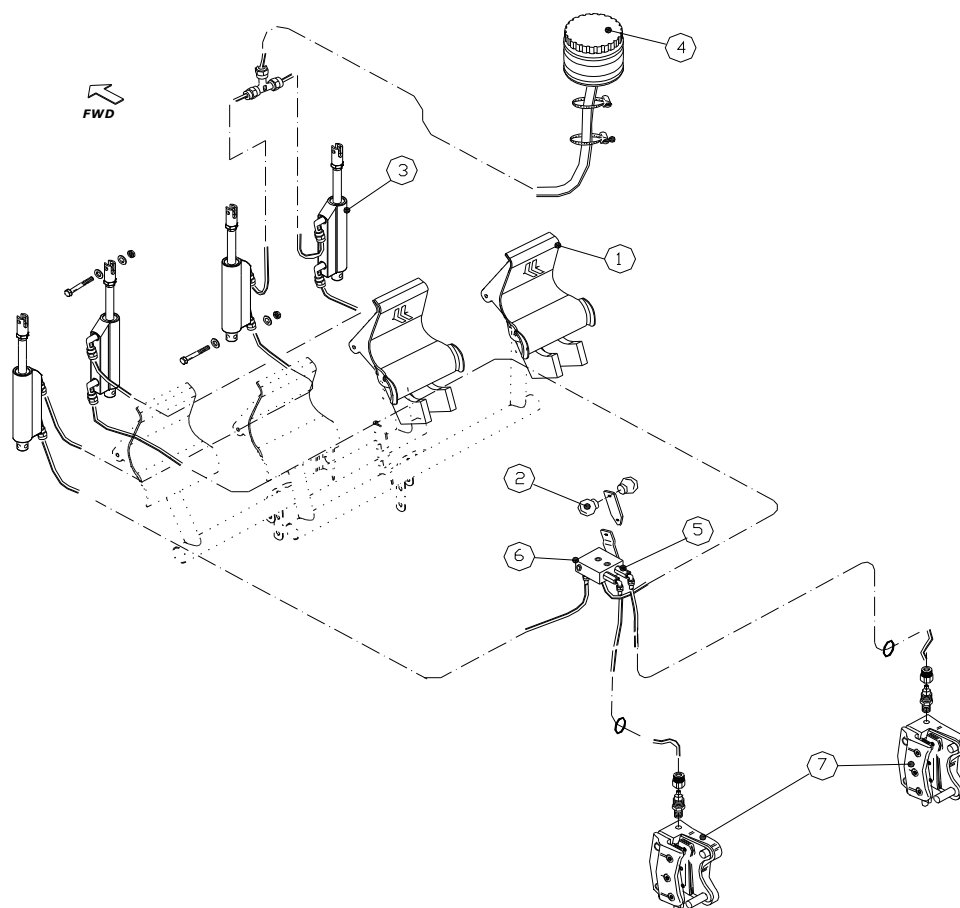

Fig. 1-7 Brake System
Wheels are cantilevered on gear struts and feature hydraulically actuated disc brakes (see fig. 1-7) controlled by a lever (1) located on cabin tunnel between seats. Main gear wheels mount Air-Trac type 5.00-5 tires inflated at 23 psi (1.6 bar). Hydraulic circuit shut-off valve (2) is positioned between seats. With circuit shut off, pulling emergency brake lever activates parking brake function.
Figure 1-7 shows the brake system schematic diagram.